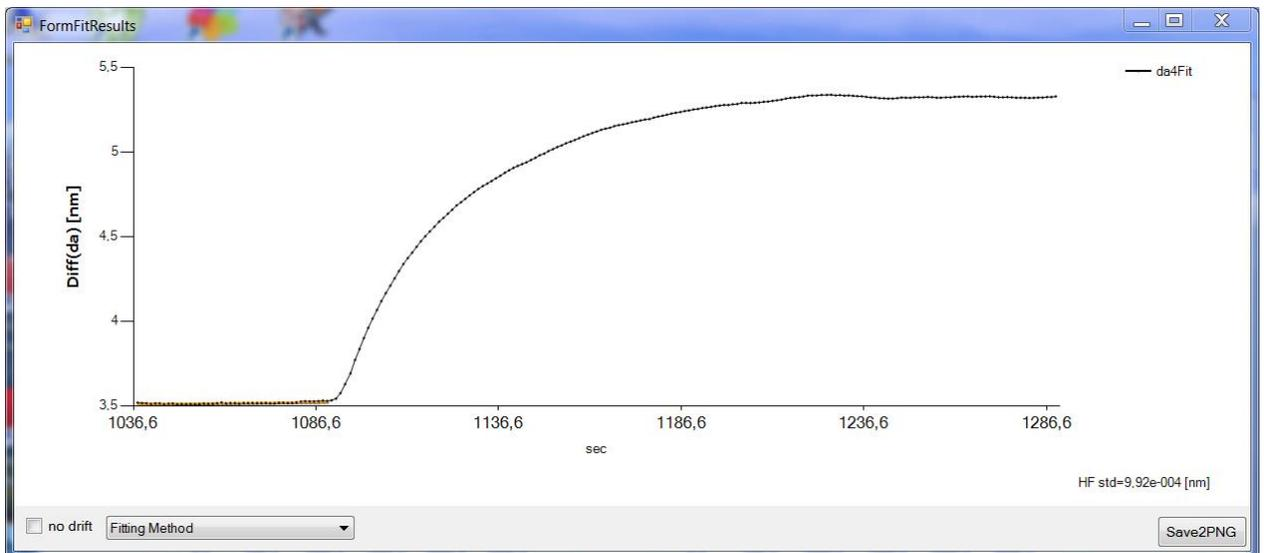
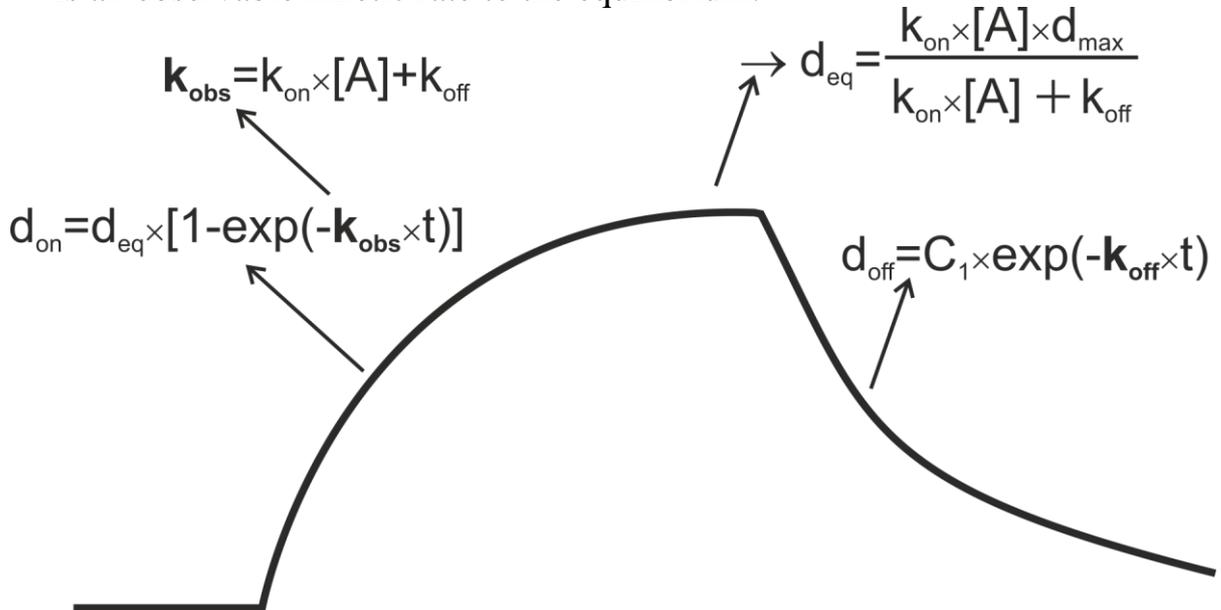

Figure 15. Form for fitting selected part of data.
Figure 18. A schematic kinetic curve showing association and dissociation phases.
The selected portion of data points will be opened in a separate window, 'FormFitResults' (see **Figure 15**), where a fitting method may be chosen. There are several fitting methods in the program. All of these are illustrated in **Figure 16**. The internal details of the fitting process may be found in the 'FittingOutput' window, presented in **Figure 17**.
Several kinetic models for data fit may be chosen in the 'FormFitResults' window (Figure 15). In Figure 16, one can see available models (A-D) for fit. The main model is a Langmuir model (with and without drift – (B) in Figure 16). In this model (schematically illustrated in Figure 18):